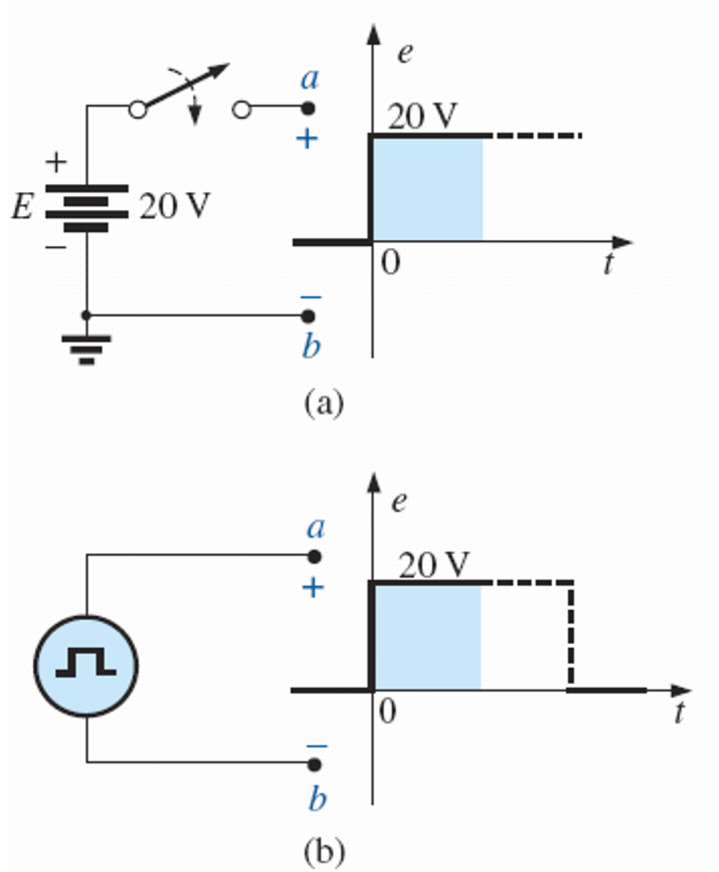

FIG. 10.87
10.90 *Transient response for the voltage across the capacitor in Fig. 10.87 when V_{Pulse} is applied.*